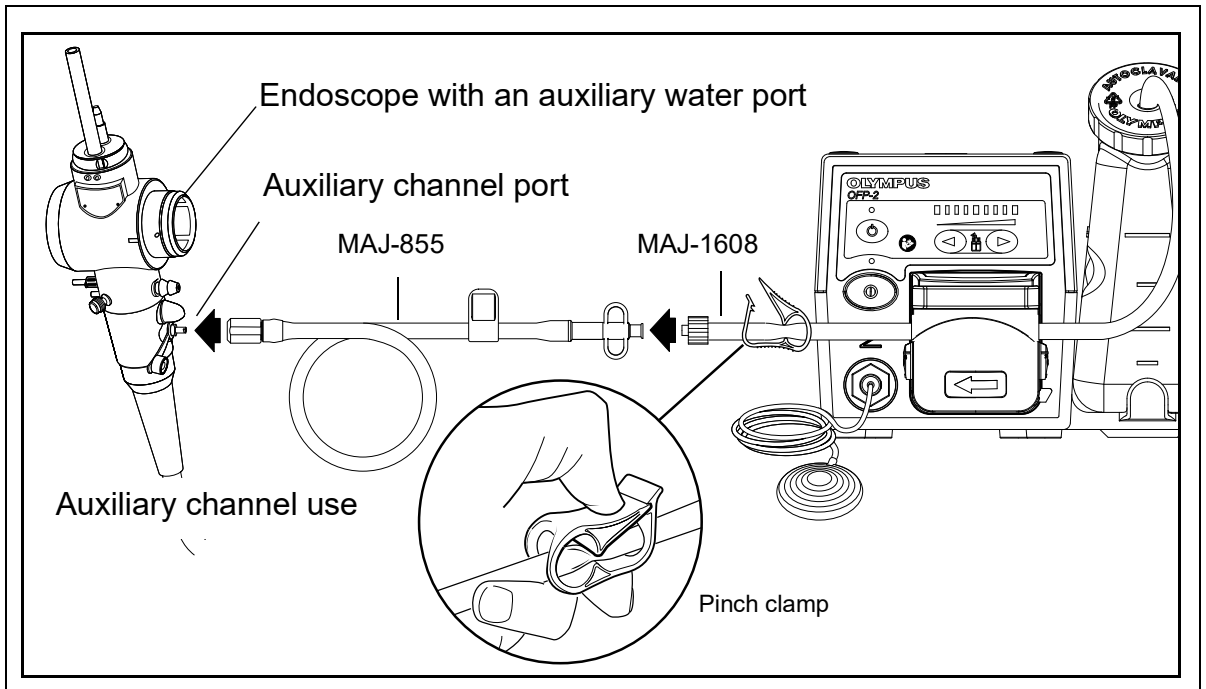

Figure 3.10
16. **Auxiliary channel connection (with MAJ-1608/MAJ-855):** Refer to Figure 3.10 and connect the Luer lock connector on the MAJ-1608 water tube to the MAJ-855 auxiliary water tube attached to the auxiliary channel port on the endoscope.